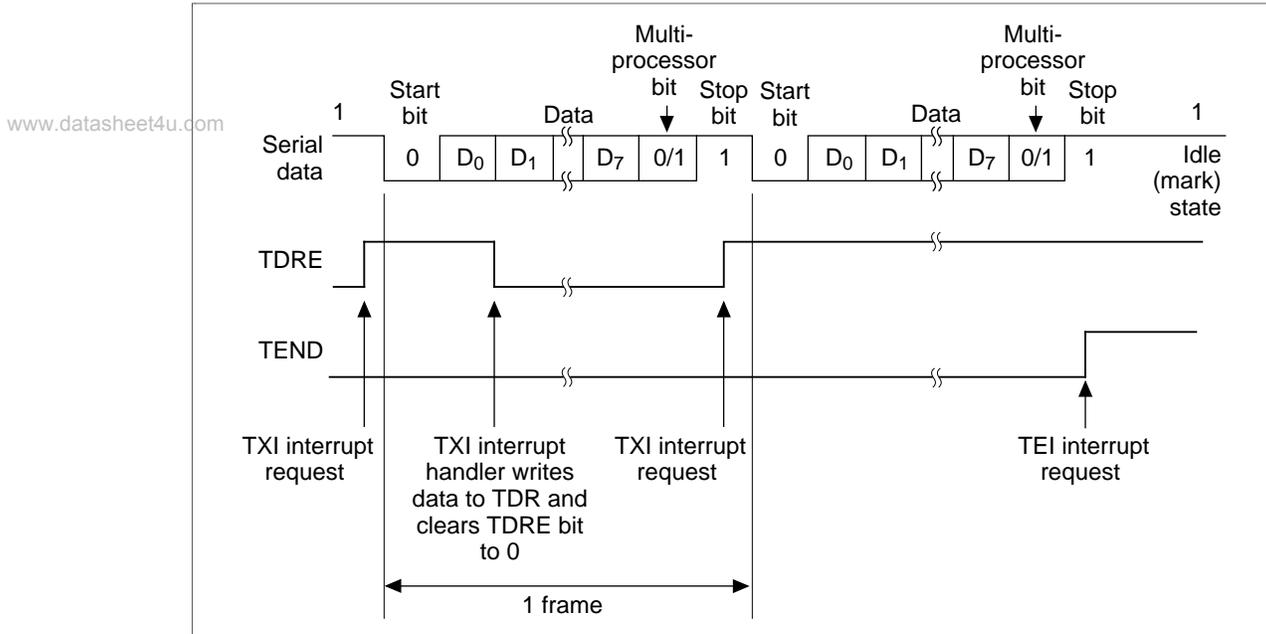

**Figure 13.10 Sample Flowchart for Transmitting Multiprocessor Serial Data**
**Transmitting Multiprocessor Serial Data:** Figure 13.10 shows a sample flowchart for transmitting multiprocessor serial data. The procedure for transmitting multiprocessor serial data is: